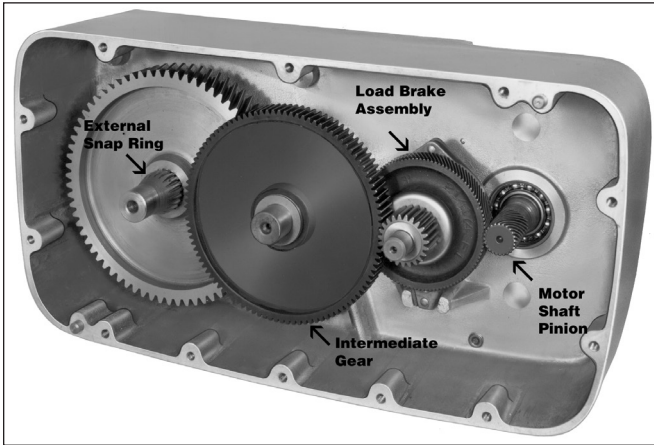

Figure 5-3. View of Gearcase – Cover Removed
- a. The mechanical load brake and gearing may be inspected and serviced with hoist suspended. To do so, remove lower block and wire rope, drain oil from gearcase, remove 12 hex head bolts and lockwashers holding gearcase cover, and pull cover from gearcase (Figure 5-3).